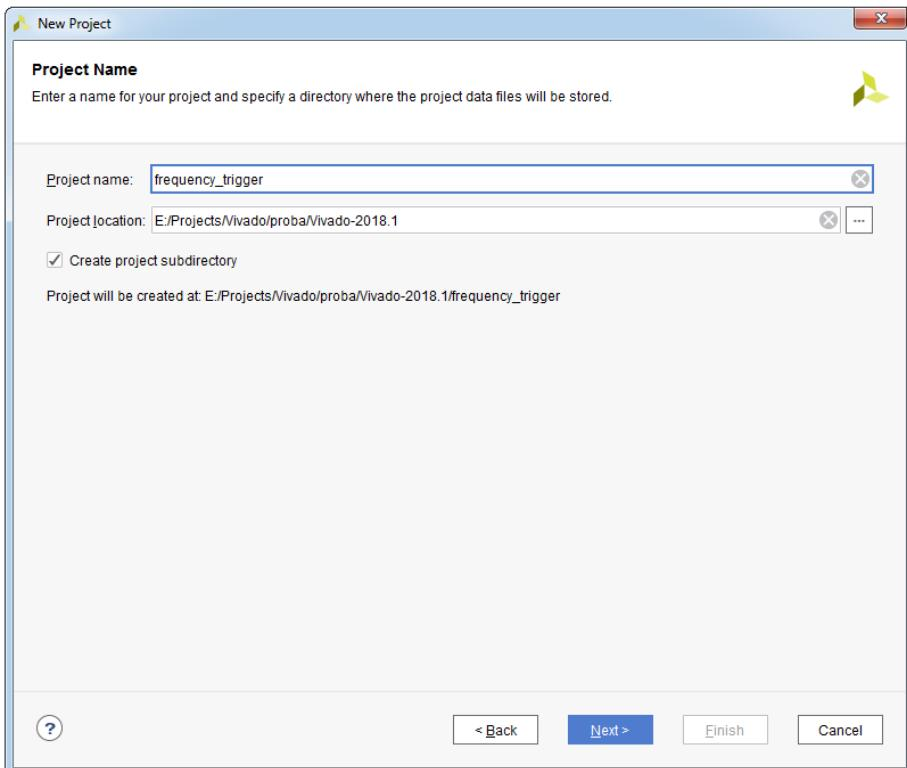

Figure 12.4: Project Name dialog box
3. In the **Project Name** dialog box, enter a name of a new project and specify directory where the project data files will be stored. Name the project **frequency_trigger**, verify the project location and click **Next**, see Figure 12.4.